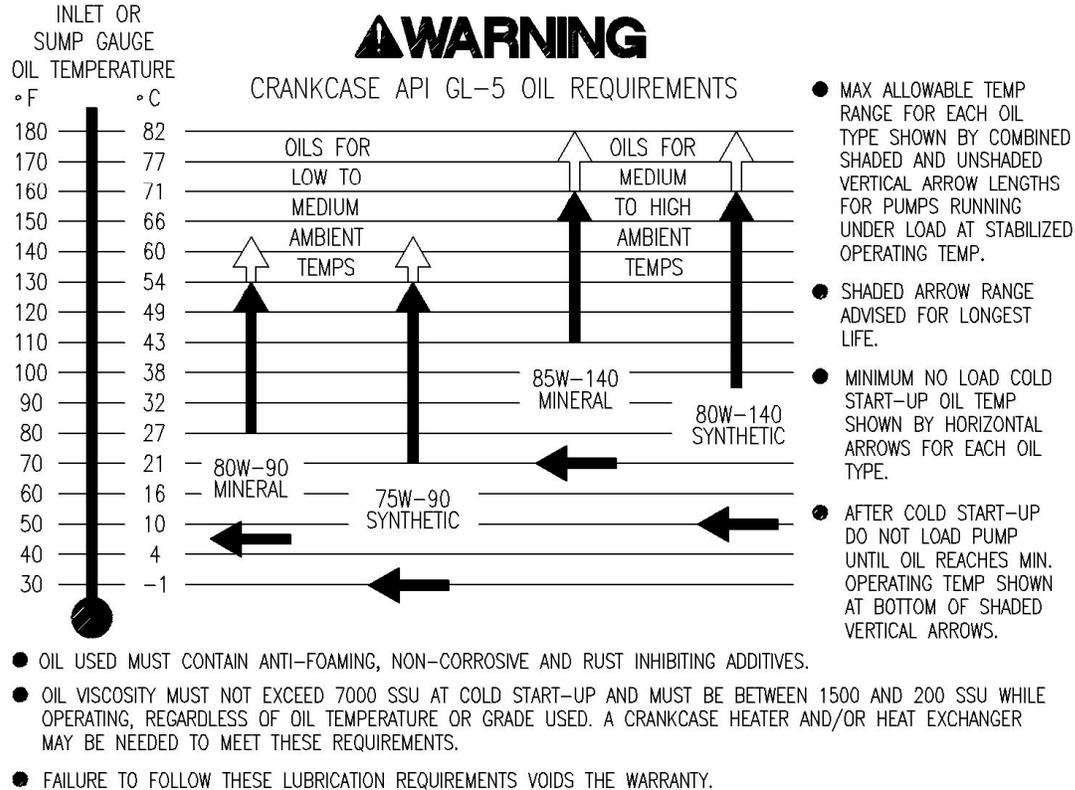

FIGURE 3-1 Lubricant Recommendations
FIGURE 3-1 indicates API-GL5 oil grades recommended for use in the pump power end and the gear reducer lube system. Crankcase operating temperature ranges and minimum startup temperatures for each listed grade of oil for various inlet or sump temperature ranges.
1. Fill the lube oil reservoir with recommended grade of oil. See "Power End Lubrication," and FIGURE 3-1, page 17.
4. Start the engine at the lowest possible RPM and the quintuplex pump at zero (0) pressure. Make sure that all roller bearings, crossheads, knuckle joints, and crankshaft bearings are properly lubricated.
2. Periodically monitor lube oil operating pressure and temperature. Minimum oil operating pressure is 40 psi. The maximum oil operating temperature depends on a particular grade of oil used in the pump lube system. (See FIGURE 3-1, page 17).